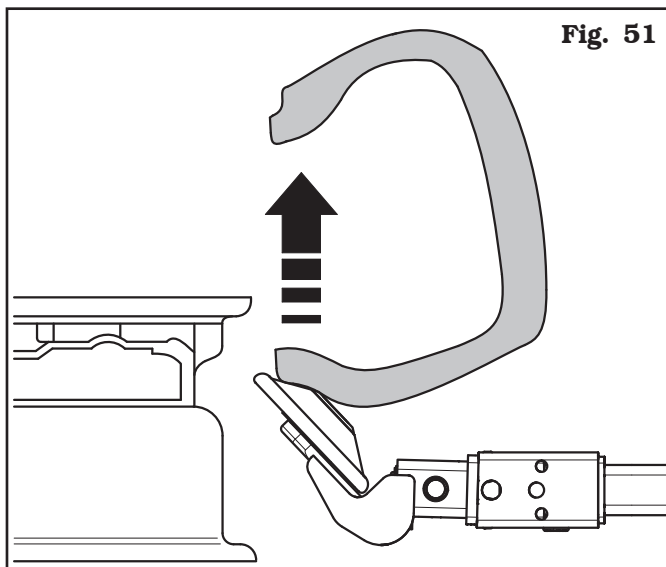

Fig. 51
1. Lift the roller and the tyre just next to the rim edge (see **Fig. 51**);